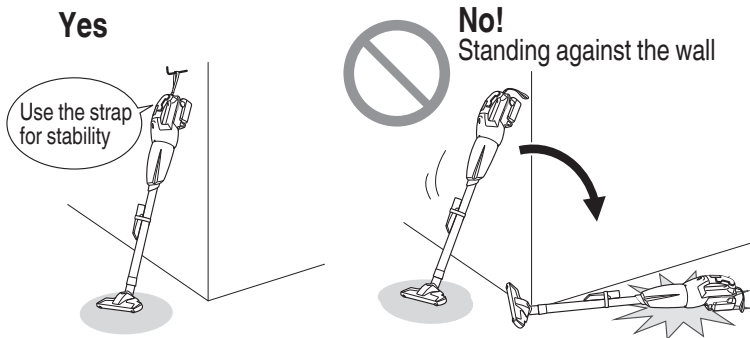

Fig. 29
- Do not stand the appliance against a wall without using the strap to fix it in place. (Fig. 29)